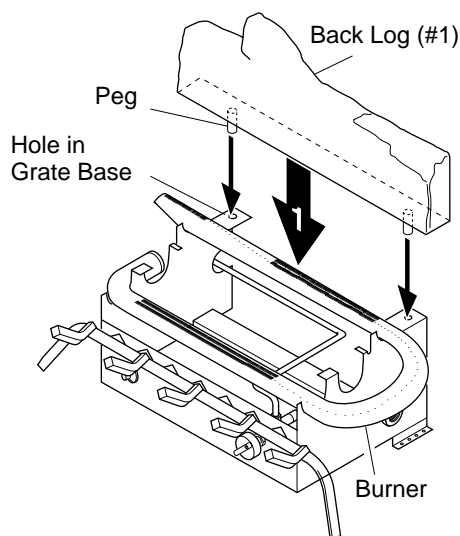

Figure 18 - Installing Back Log (#1)
1. Locate pegs on the bottom of back log (#1). Slide these pegs into the holes in the grate base behind the burner (see Figure 18).